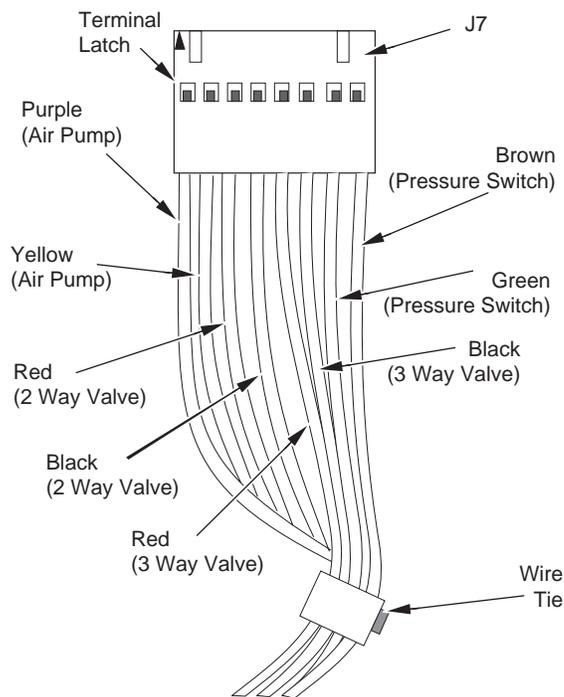

Figure 7-11: Wire Position and Removal from J7 Connector
5. Unplug at the elbow, the hose that runs to the Quick-Connect fitting for the blood pressure cuff on the front bezel (see Figure 7-11).